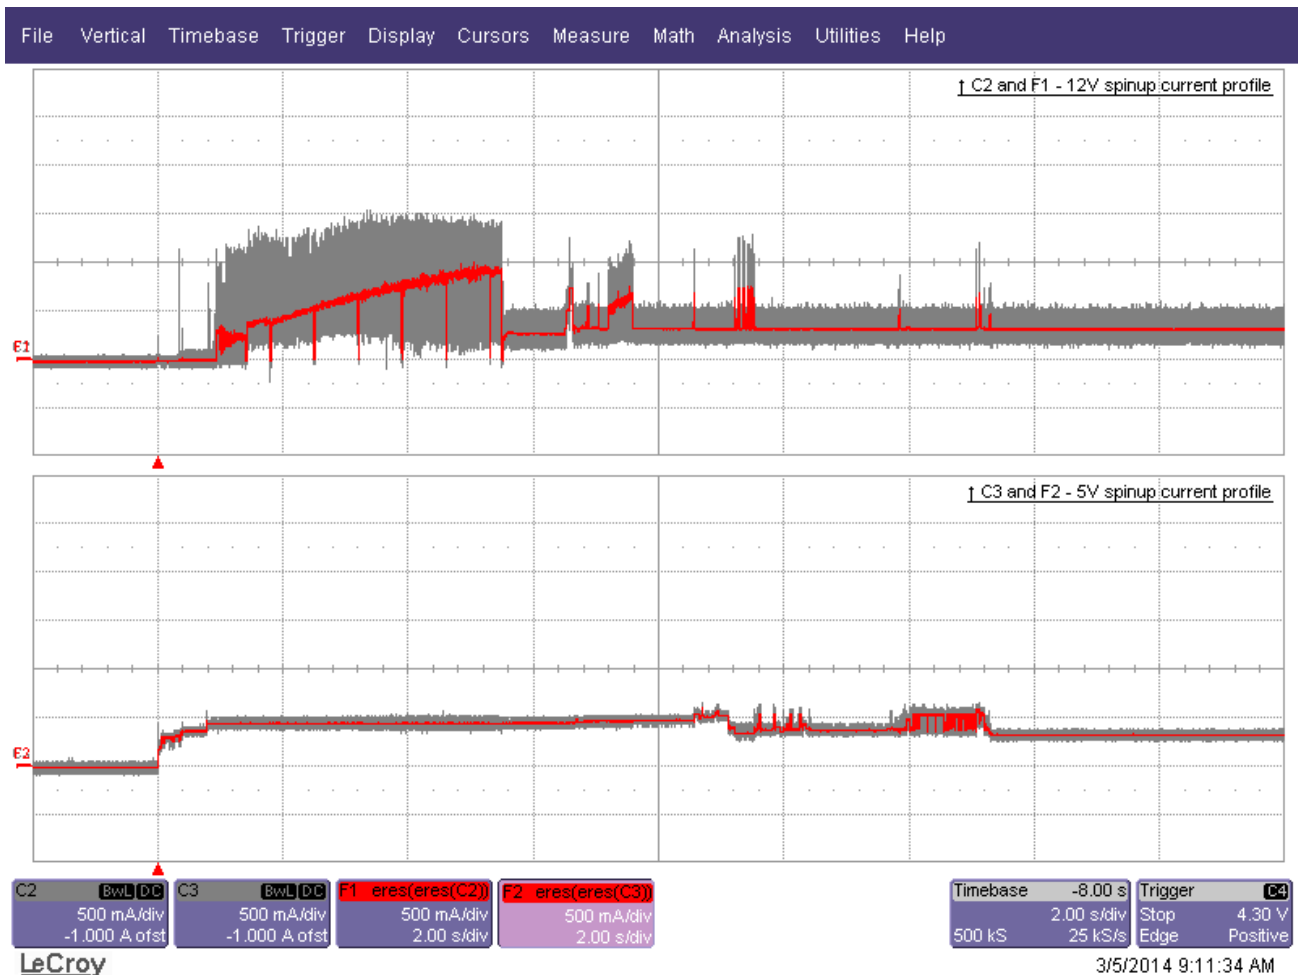

Figure 1. Current profile for 600GB models
- [3] See +12V current profile in Figure 1.